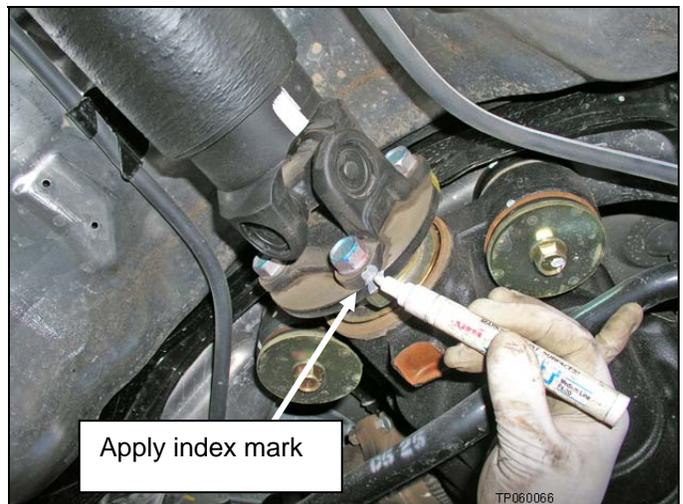

Figure 15
- Apply an “index” (line up) mark across the propeller shaft and differential pinion flange for correct re-assembly (see Figure 15).